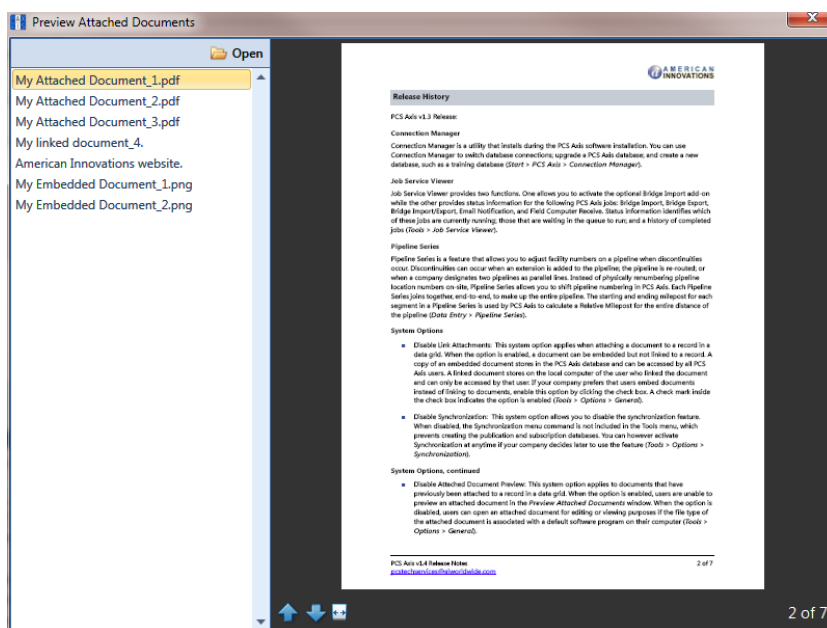

Figure 3-19. Preview Attached Documents
- 6 Select a file in the list on the left side of the window to view the file in the *Preview Attached Documents* window (Figure 3-19).